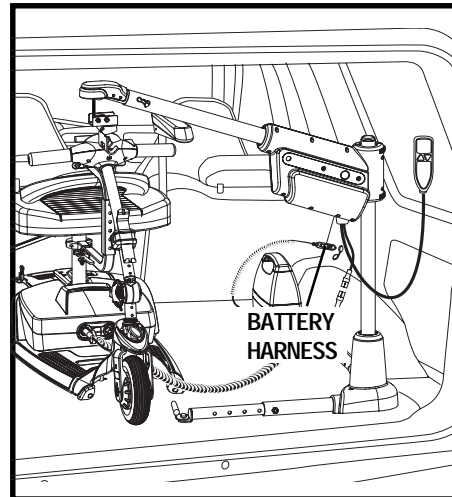

Figure 3A. Harness Connections
5. Plug the harness from the battery pack into the mating harness extending from the lift. See **figure 3A**.